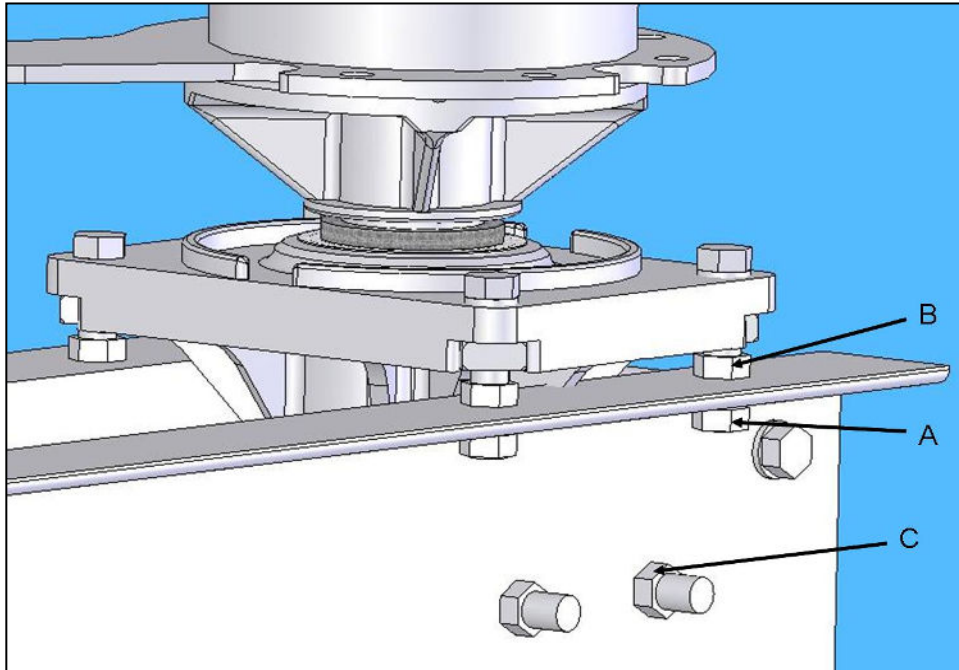
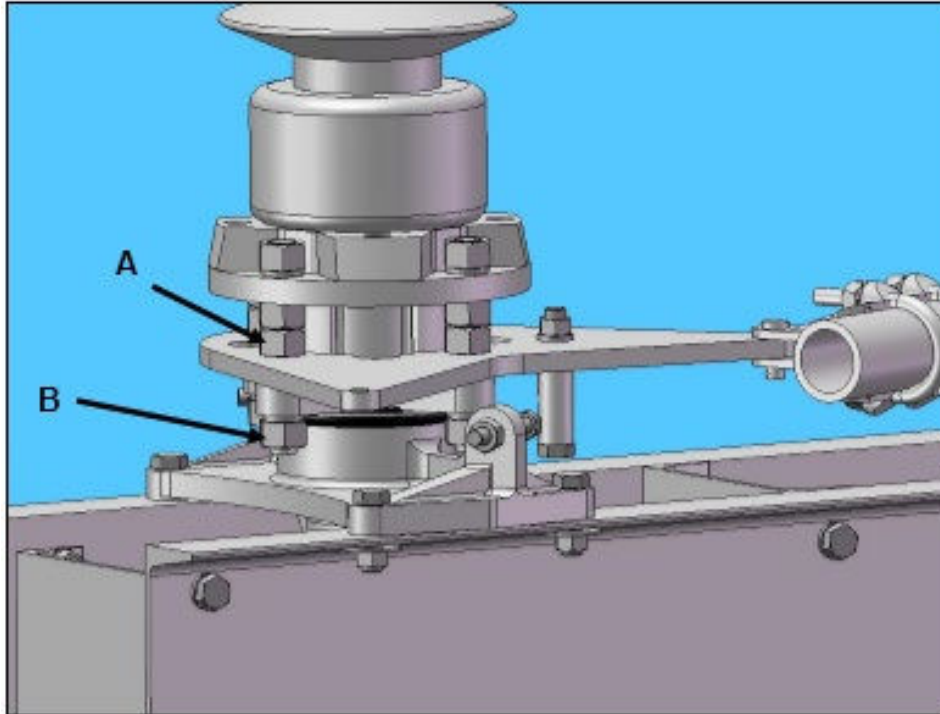
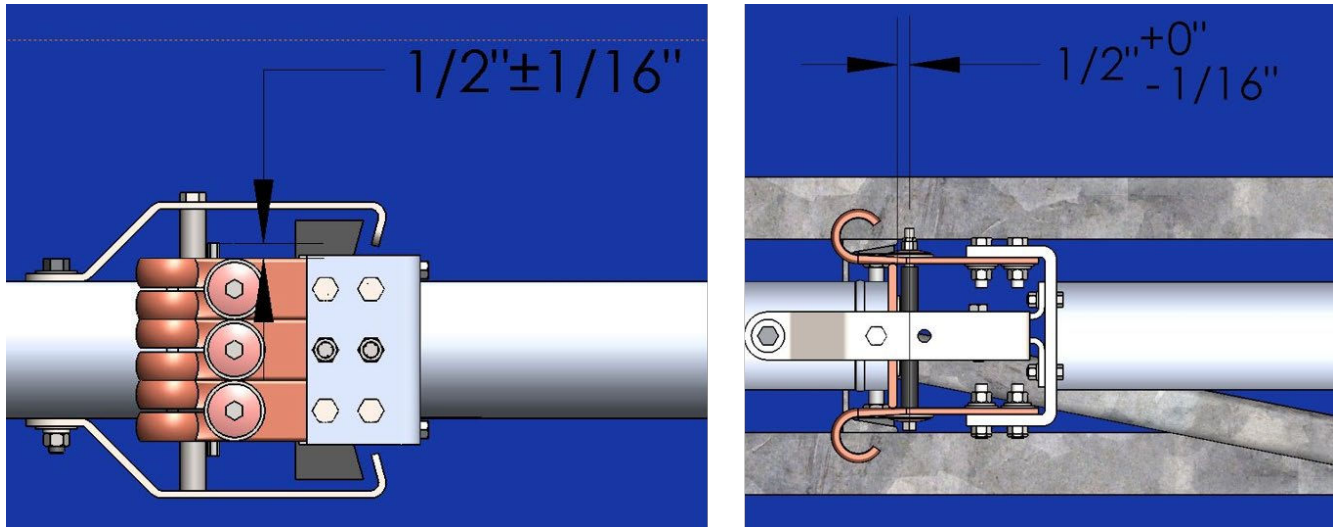

Figure 4: Insulator Stack Alignment (Heavy Duty Bearing)
Figure 5: Insulator Stack Alignment (Extra Heavy Duty Bearing)
Figure 8: Switch - Fully Closed Position (Left: Side View, Right: Top View)
6. Confirm proper insulator alignment, both insulators must be as near to perpendicular as possible to both the long and short axis of the disconnect switch base. **NOTE:** The original insulator stack height must be maintained. When the nuts on the jack bolts are used to adjust insulator tilt, opposite nuts must be turned equally (run one nut up a certain number of turns, turn the opposite nut down the same number of turns). Refer to **Figure 4** and **Figure 5.**
9. If the insulator needs adjustment, use the nuts on the jack bolts of the insulator bearing to tilt the insulator in the needed direction. Refer to **Figure 4** and **Figure 5**.
Refer to **Figure 4:**
- The male blade assembly should touch the blade stops as shown in **Figure 8**. If adjustment is necessary to achieve contact, loosen the bolts that attach the blades to the insulators, and use the bolt hole tolerances to adjust the spacing. If a gap is still present (**Figure 8**), utilize the insulator stack adjusting bolts to adjust further (Refer to **Figure 4** and **Figure 5**). Torque all bolts to the recommended value(s) shown in Table 2.
- Contact fingers should be centered or as close as possible on contact bar. All contact fingers must make contact with silver on contact bar in closed position as shown in **Figure 8**.
9. Refer to **Figure 5**,